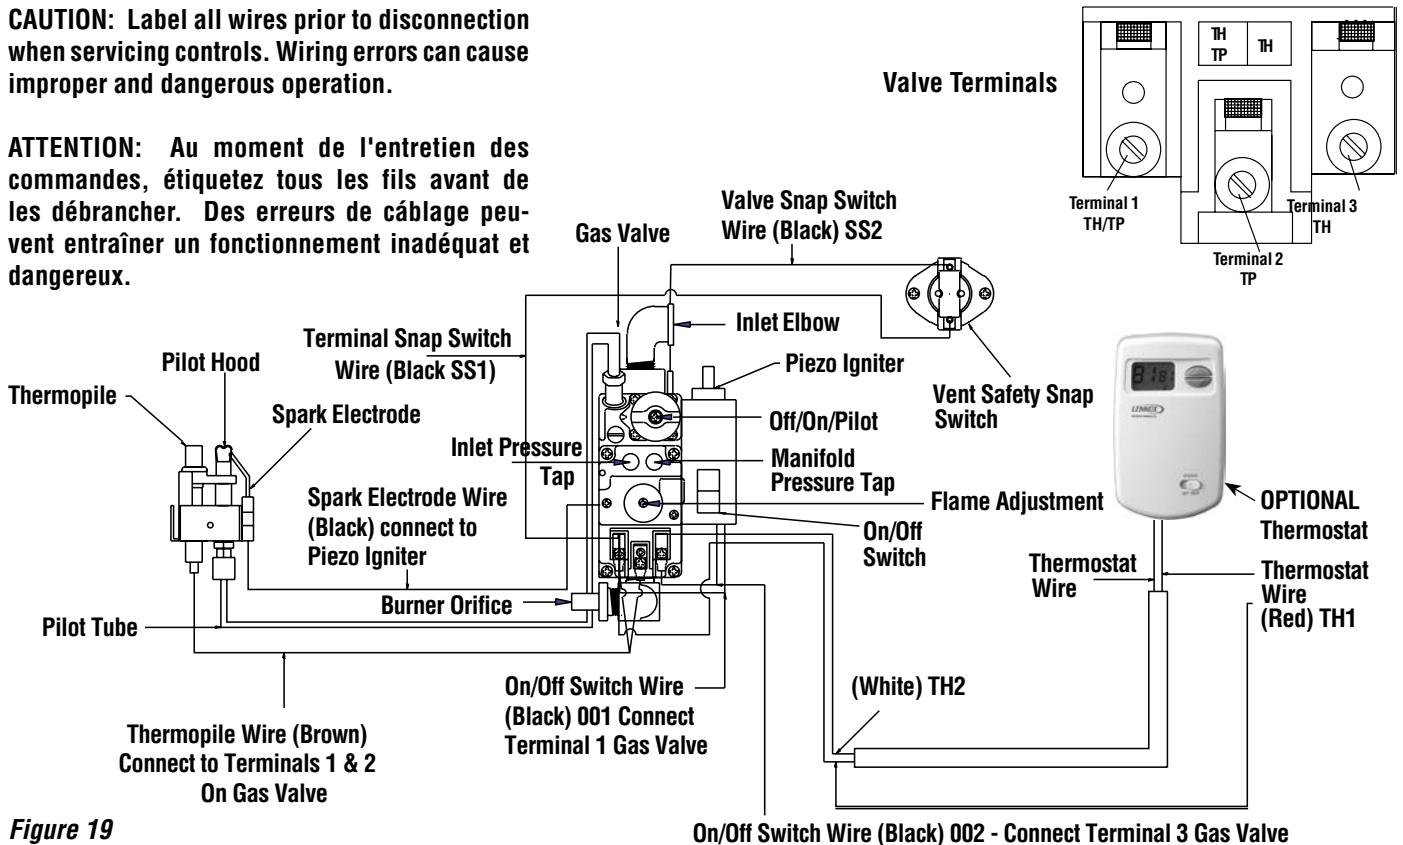

Figure 19
To check for proper operation, use a multimeter and perform the system checks shown in **Table 4** (and refer to **Figure 19**).
- See Millivolt Control Schematic (*Figure 19*) for information on thermostat and On/ Off switch.